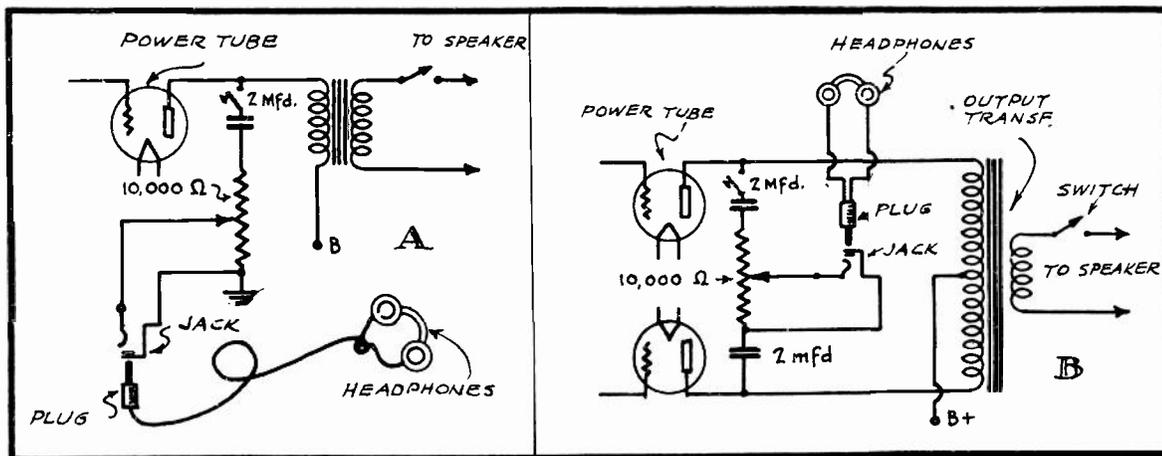

FIG. 3
1. - THE CIRCUIT AT "A" OF FIG. 3 ILLUSTRATES HOW THE HEADPHONE CONNECTION IS MADE ON A RECEIVER EMPLOYING A POWER STAGE WITH A SINGLE TUBE. THE 10,000 OHM POTENTIOMETER SERVES AS A VOLUME CONTROL FOR THE HEADPHONES. A "PLUG-JACK OFFERS A CONVENIENT METHOD BY MEANS OF WHICH THE HEADPHONES CAN BE CONNECTED TO THE CIRCUIT WHENEVER DESIRED.
2. - "B" OF FIG. 3 ILLUSTRATES HOW TO MAKE THE HEADPHONE CONNECTIONS IN A PUSH-PULL POWER STAGE.